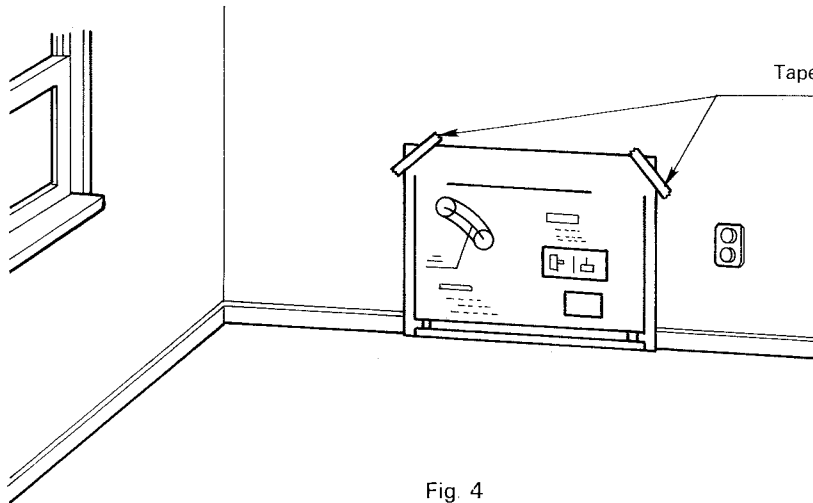

Fig. 4
3. For standard installation, use the template enclosed with the heater to position the hole for the telescoping flue pipe. Tack or tape the template to the wall at the desired position (See Fig. 4).